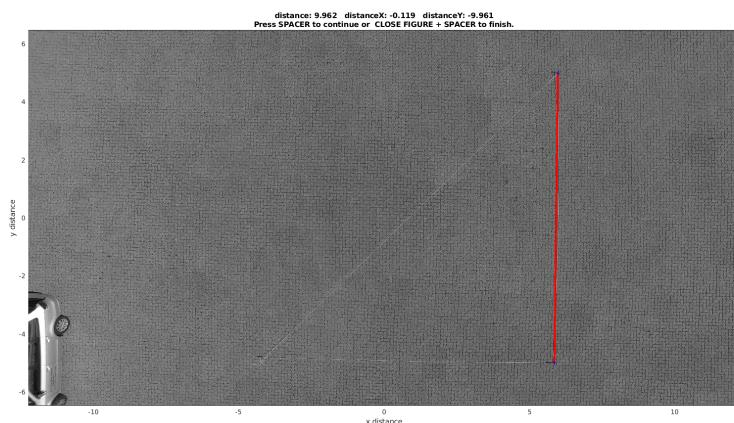

Figure 3.11: Check calibration real size.
7. Check pattern real size. The figure 3.11 will be displayed, use this GUI again, to double check the real distances obtained by the new camera calibration. Try as many times as you want. Close the figure and press the SPACER to exit the GUI.